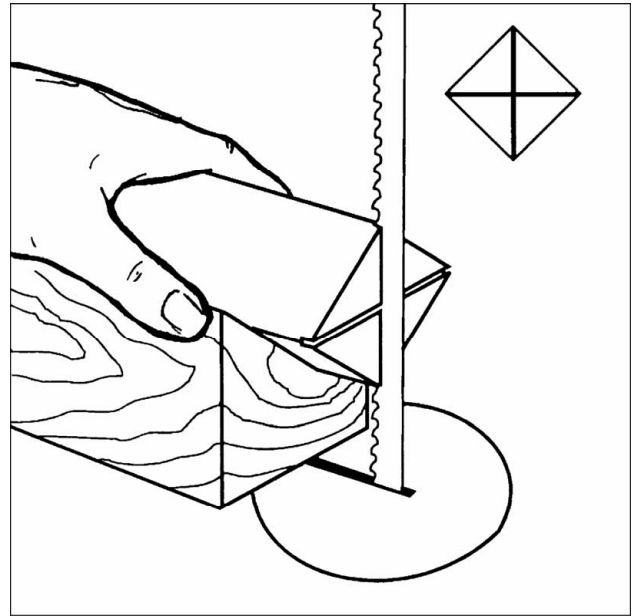

Fig. 13
1. With a ruler locate and mark the center on each end by going corner to corner, see Figure 13. Accuracy is not critical on full rounds but extremely important on stock where square sections are to remain. Put a dimple in each end of the stock with an awl, or nail.
2. Extremely hard woods may require kerfs cut into the spur drive end of stock, see Figure 13. You may need to drive the spur center into the stock with a wood mallet. **Note:** Never drive stock onto spur while it is mounted in the lathe spindle.